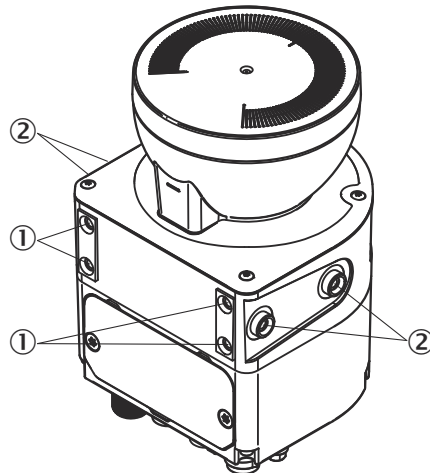

Figure 38: Mounting the safety laser scanner directly
- ① Rear M5 threaded hole
- ② Side M5 threaded hole
- ▶ Use either the rear or the side M5 threaded holes for direct mounting, see figure 38, page 68.